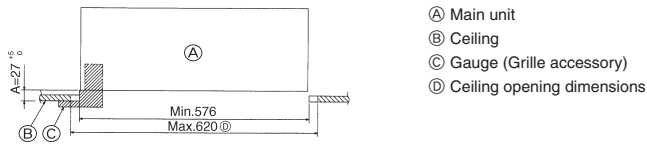

Fig. 4-6
- When the main unit can not be aligned against the mounting hole on the ceiling, it is adjustable owing to a slot provided on the mounting plate. (Fig. 4-6)